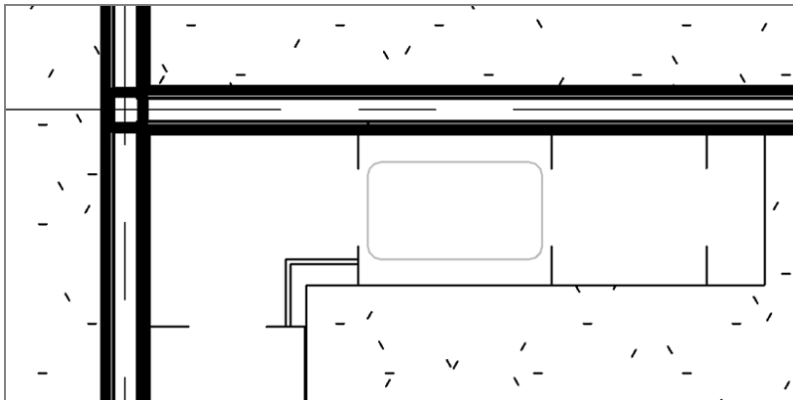

FIGURE 9.61: The completed corner
14. Stretch the grips until the filler resembles Figure 9.61.